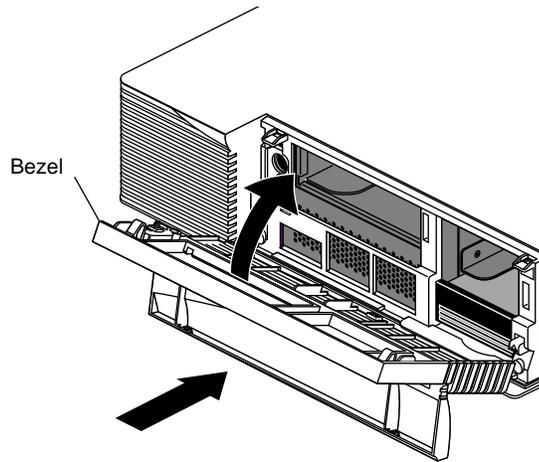

Figure 5-17 Replacing the Bezel
- Place the tabs on the bottom of the bezel in the grooves in the front of the chassis, as shown in Figure 5-17.